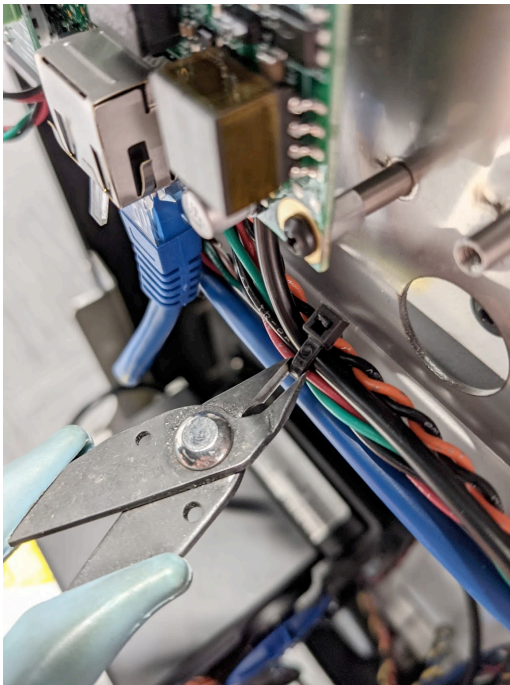

fig 1a
1. Remove all zip ties holding button wiring with side cutters (fig 1a). **Use extreme caution not to cut or damage wiring.** There will be 3-5 wire routing zip ties to remove.